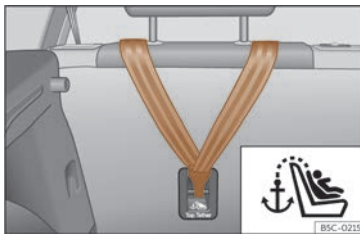
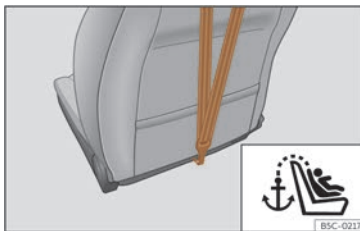

Fig. 41 Rear part of the rear seats: Top Tether belt anchor.
Fig. 42 Rear of front passenger seat backrest: Top Tether belt anchor (not available in all markets/versions).
is located on the rear of the rear seat backrest and of the front passenger seat backrest¹⁾ (identified with the symbol ) and provides better retention >>> **Fig. 41**, >>> **Fig. 42**.
- Slide the belt and secure it properly with the anchor on the rear seat backrest >>> **Fig. 41**, >>> **Fig. 42**.